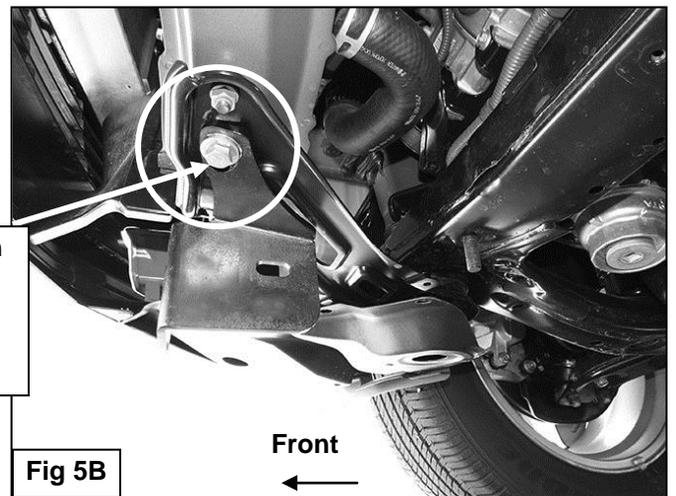

Fig 5B
- Select the passenger side Mounting Bracket, **(Figure 5A)**. Locate the two factory bolts on the crossmember brace leading towards the bumper, **(Figures 4B & 5B)**. Remove the factory hex bolt towards the outside of the vehicle. Position the driver side Mounting Bracket up to the bottom of the crossmember brace. Bolt the Mounting Bracket in place on the bottom of the brace using the included (1) 10-1.25mm x 35mm Fine Thread Hex Bolt, (1) 10mm Lock Washer and (1) 10mm Flat washer, **(Figure 5B)**. Snug but do not tighten hardware at this time.